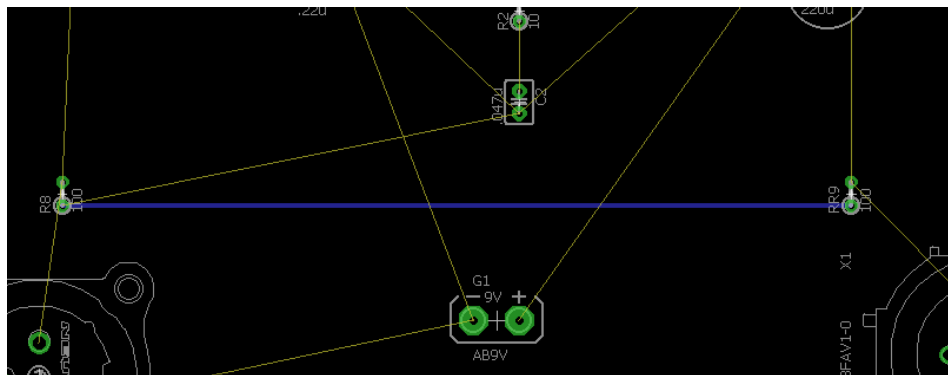

Figure 11
- At this point everything is ready to start connecting pads with traces. To start a trace, click the center of one of the green circles. A blue line should appear on the screen. Drag this blue line to one of the other pads that is connect to it with a yellow line. **Figure 11** shows a connection from R8 to R9 with a trace. This same basic process can be used to connect the rest of the pads in the circuit.